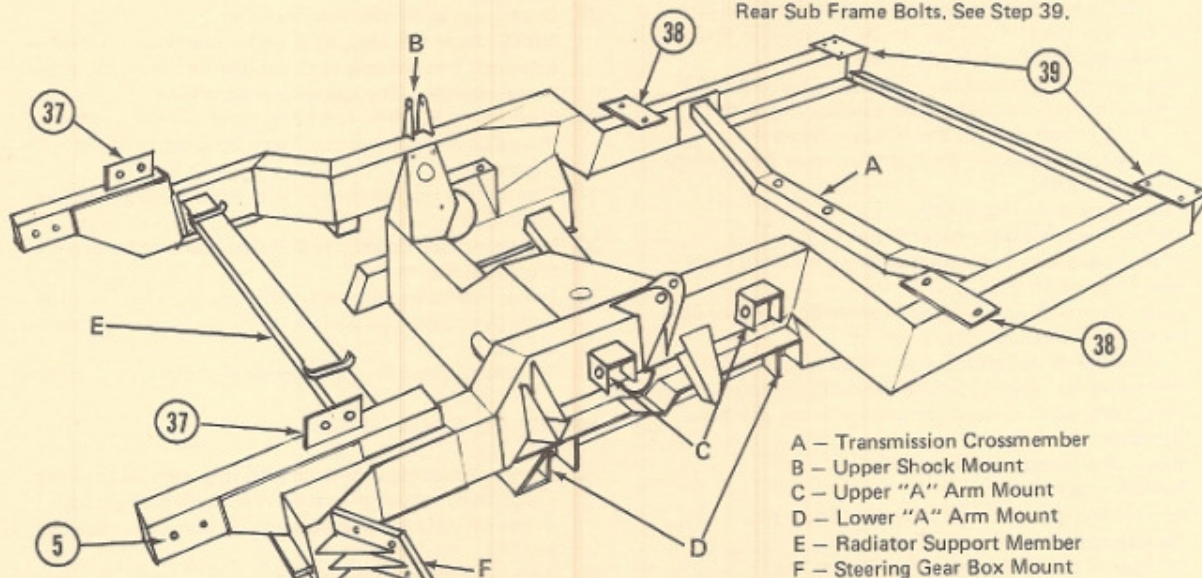

Figure 64— Revcon Engine and Sub Frame Removal
4. Remove the bumper and dressout panels (figure 64).
5. Unbolt the front bumper and remove (figure 64).
**Figure 64 — Front Bumper Removal:** The front bumper is bolted to the sub-frame with 4 large bolts. Remove the four 7/16" diameter bolts, flat washers, lockwashers, and nuts. Be sure to have several men ready to hold the bumper while it is being slid away from the body. The dressout should remain attached, forward at the bumper.